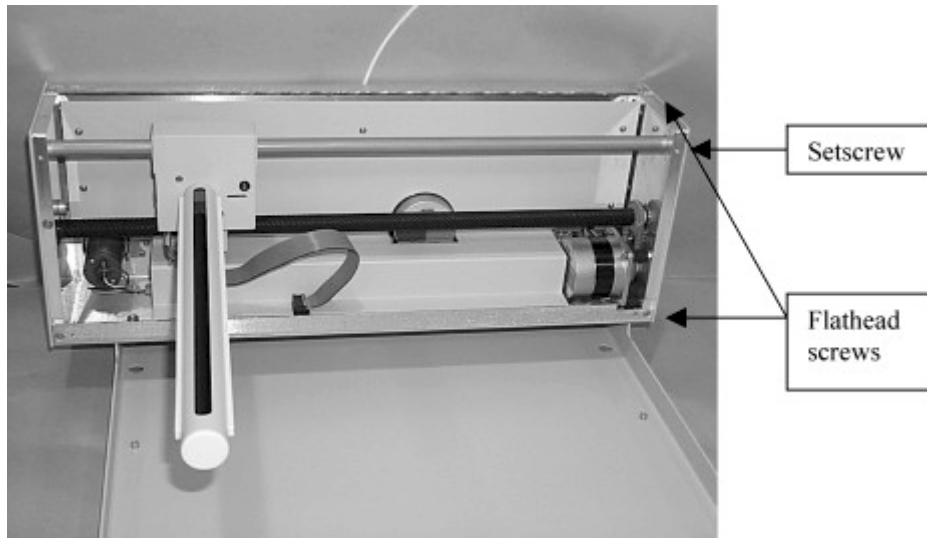

Figure 1-9. View of ASX-510 with front cover removed.
7. Remove the right side panel by removing 2 flat head screws located as shown in picture, and also a pan head screw located in the rear of the unit. Then loosen setscrew indicated in figure 1-9.